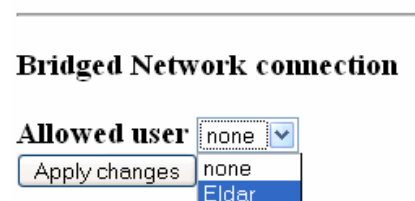

Figure 7.3.3
1. Through local connection, TWCT22 device is configured to accept Short Messages requesting Bridge Connection from one of user's phone number. To do this, after TWCT22 connections via RS232 with TWCT.EXE, from Settings select the Allowed User (see Figure 7.3.3). Then close the TWCT.EXE program.